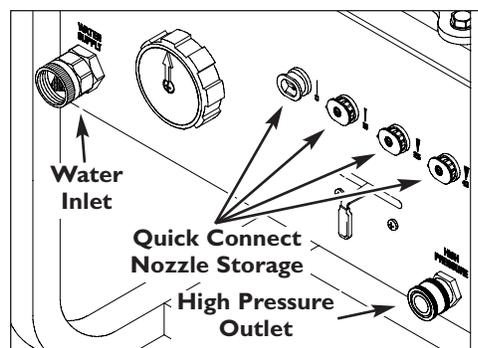
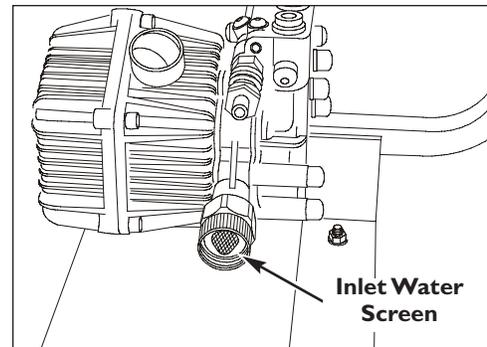

Figure 4 - 3000 PSI Control Panel
Figure 6 - 2300 PSI Water Connector
Attach the other end of the high pressure hose to the HIGH PRESSURE outlet (Figure 4) on the unit's control panel.
Insert the multi-colored nozzles in the spaces provided (Figure 4) on the control panel.
- Check inlet screen on the water inlet at the pump for the 2300 PSI unit (Figure 6) or on the control panel fitting labeled WATER SUPPLY for 2500 PSI and 3000 PSI units (see Figure 4).